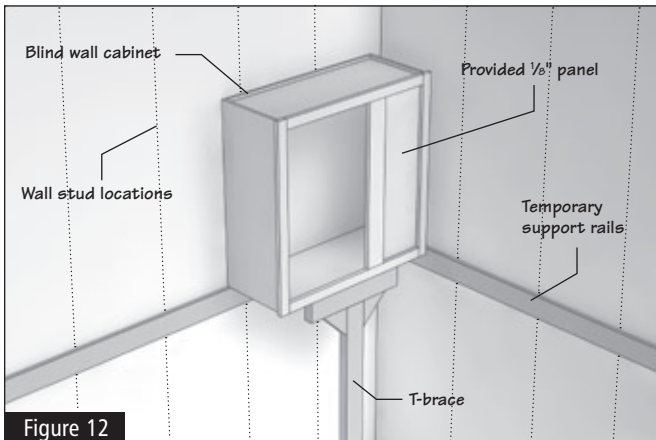

Figure 12
- 3.7** If there is a blind corner cabinet, the opening should be sealed at this point with the $\frac{1}{8}$ " panel packed inside the cabinet. Pre-drill for small finishing nails or use a pin nailer. (Figure 12)